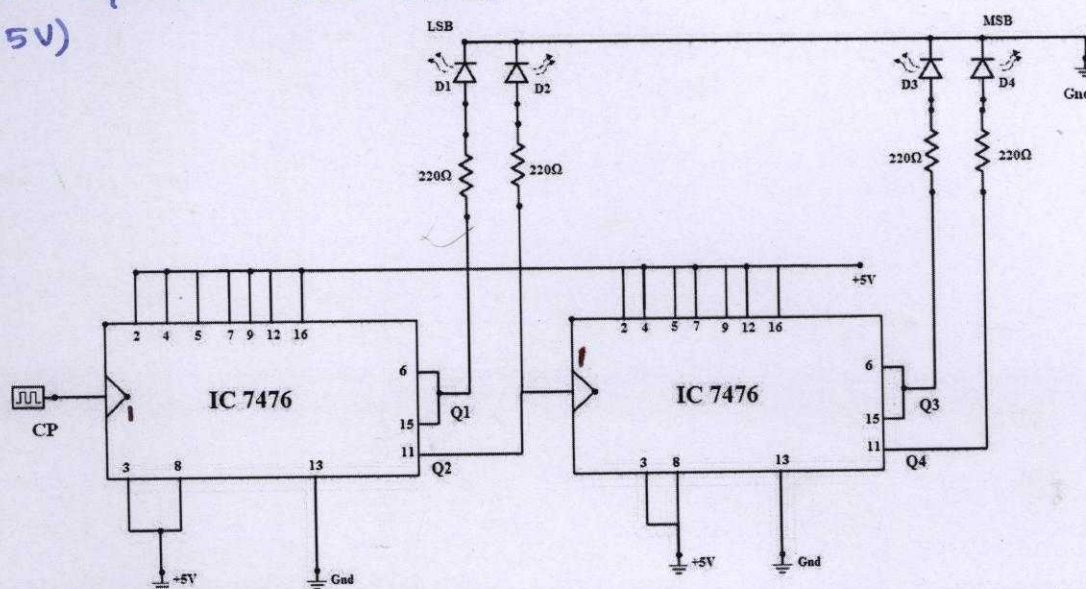

Fig. 6.4 Asynchronous counter using two 7476 ICs
Use two 7476 ICs to implement the design of asynchronous counter to count up to 15 (as shown in Fig. 6.4). Connect the Q outputs of flip-flops to LEDs and connect all clear (CLR) and preset (PR) inputs to logic high.